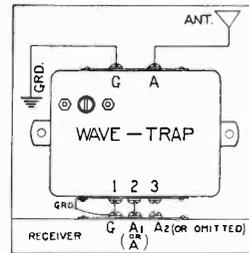

Figure 2—Single-Wire Antenna
**Single-Wire Antenna.**—Mount the Wave-Trap using the links to connect No. 1 and No. 2 terminals on the trap to the ground and antenna terminals respectively on the radio chassis. Use the "A1" terminal as the antenna post in RCA Victor receivers equipped with a three-terminal board. Connect the antenna lead-in and the external ground soldering lug to the "A" and "C" terminals respectively on the trap. (See Fig. 2.)